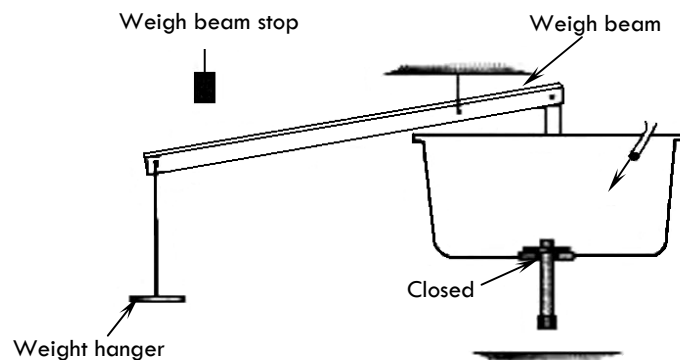

Figure 4
2. Slide the weigh beam stop (of Figure 4) out of line of the beam and lift the beam for 10 – 15 seconds to ensure the weigh tank is empty (Hydraulic bench).
3. Slide the weigh beam stop above the weigh beam (of Figure 4).